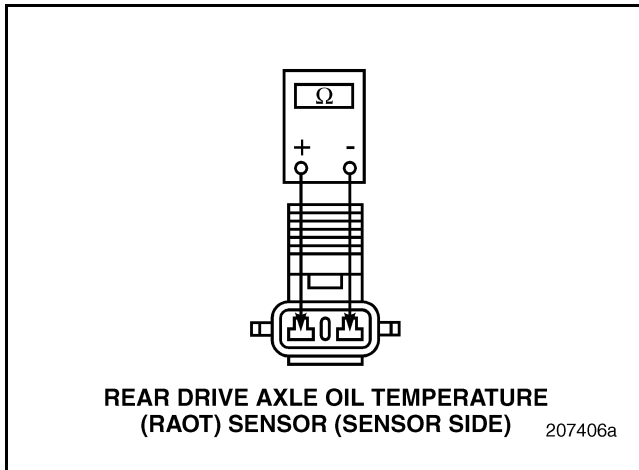

Figure 251
3. Measure the resistance across the two terminals of the sensor with the rear drive axle between 32° and 194°F (0° and 90°C) (see Figure 251).